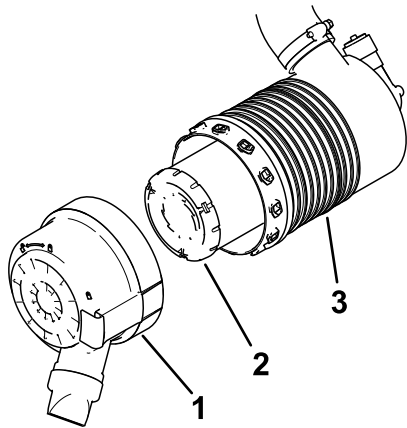

Figure 41
- Install the air-cleaner cover with the dust cap oriented downward as shown in Figure 41 and secure the latches.